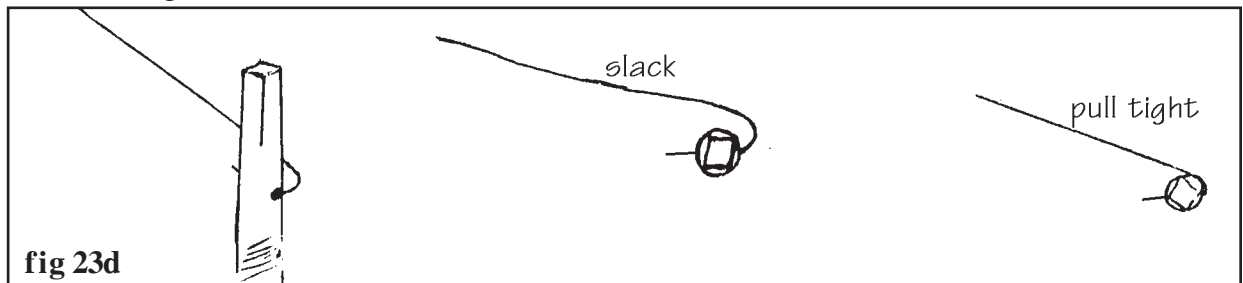

fig 23d
C) Use the tuning key to turn the pin clockwise half a turn, so you can pull it taut without the string coming out (fig 23d).